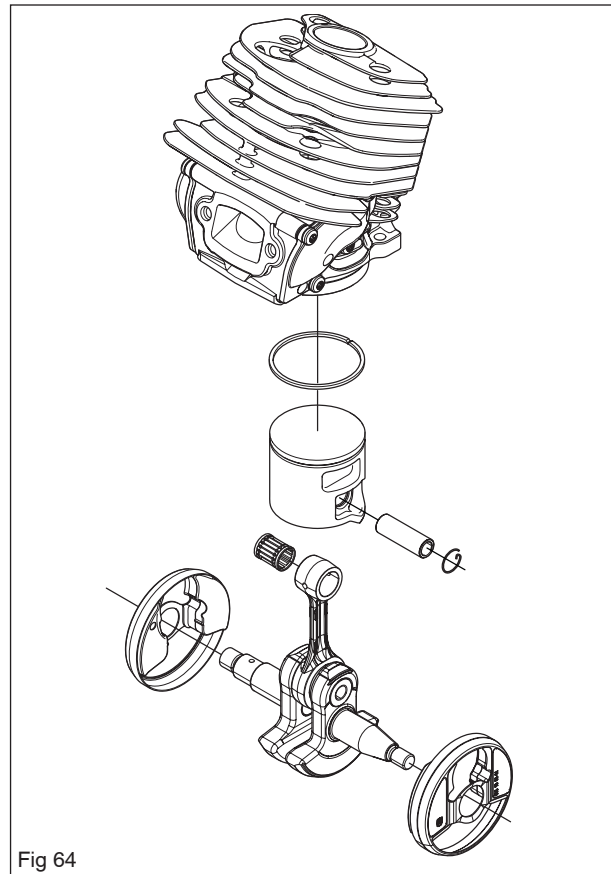

Fig 64
1. Oil the gudgeon pin bearing with two-stroke oil and insert it into the crank rod. See figure 64.
NOTE! Use new circlips. See figure 64, 65.